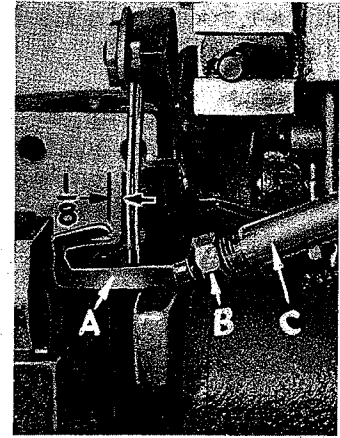

Fig. 5
At this point, insert lower spreader (A, Fig. 5) into bar (C). With lower spreader at the left end of its stroke, set the spreader point  $\frac{1}{8}$  inch from center of left needle, using looper gauge No. 21225 G- $\frac{1}{8}$ . Do not have lower spreader deflecting the needles. Tighten nut (B).